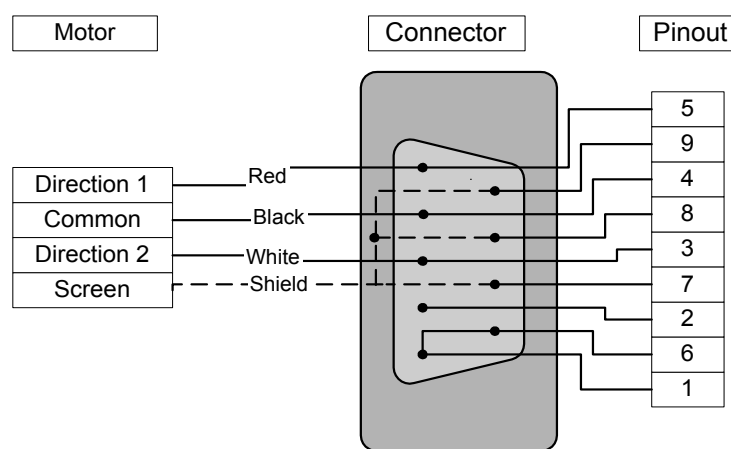

Figure 9: Motor Connector
This section describes the motor connector pinout. Make sure the driver is set to operate with the HR motor series. The motor driver connection is a standard 9 contacts D-type female connector, see Figure 9:
- In case the user replaces the original standard motor connector with user's compatible connector, it is essential to short-circuit pins 1 and 6 for safety reasons, refer to Figure 9 and Table 3.